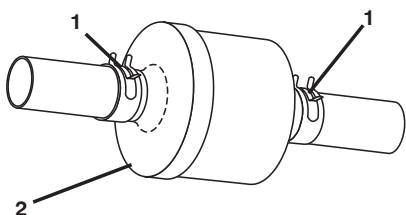

Figure 25
1. With engine cool, remove filter and plug fuel line sections (Figure 25).